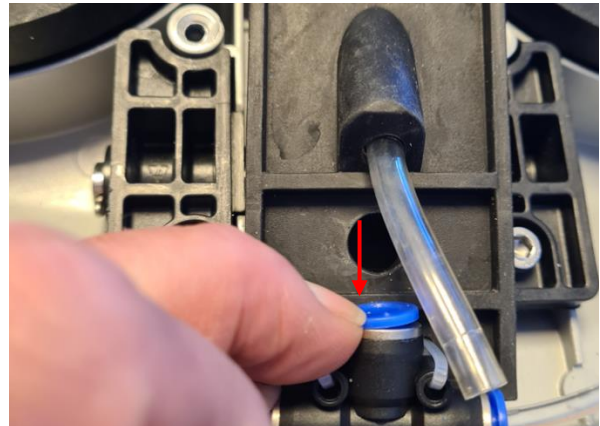

Figure 175
- all the screws indicated in Figure 175,